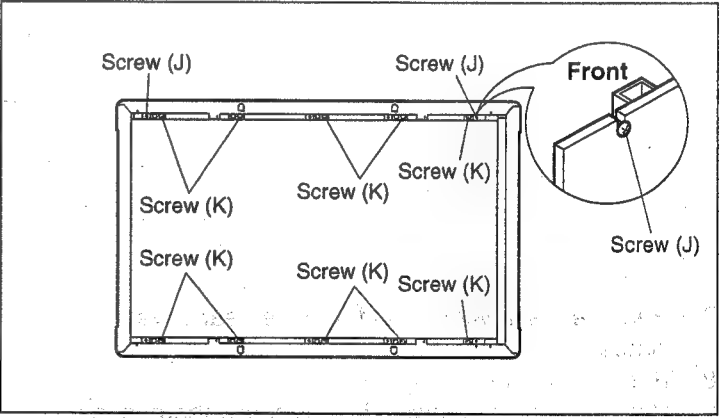

Fig. 7-18
- 13) Remove 2 screws (J) and the collars, as shown in Fig. 7-18, from the front side.
14) Remove 10 screws (K).
- 9) Secure the inner panel by 2 screws (J) and the collars (See Fig. 7-18).